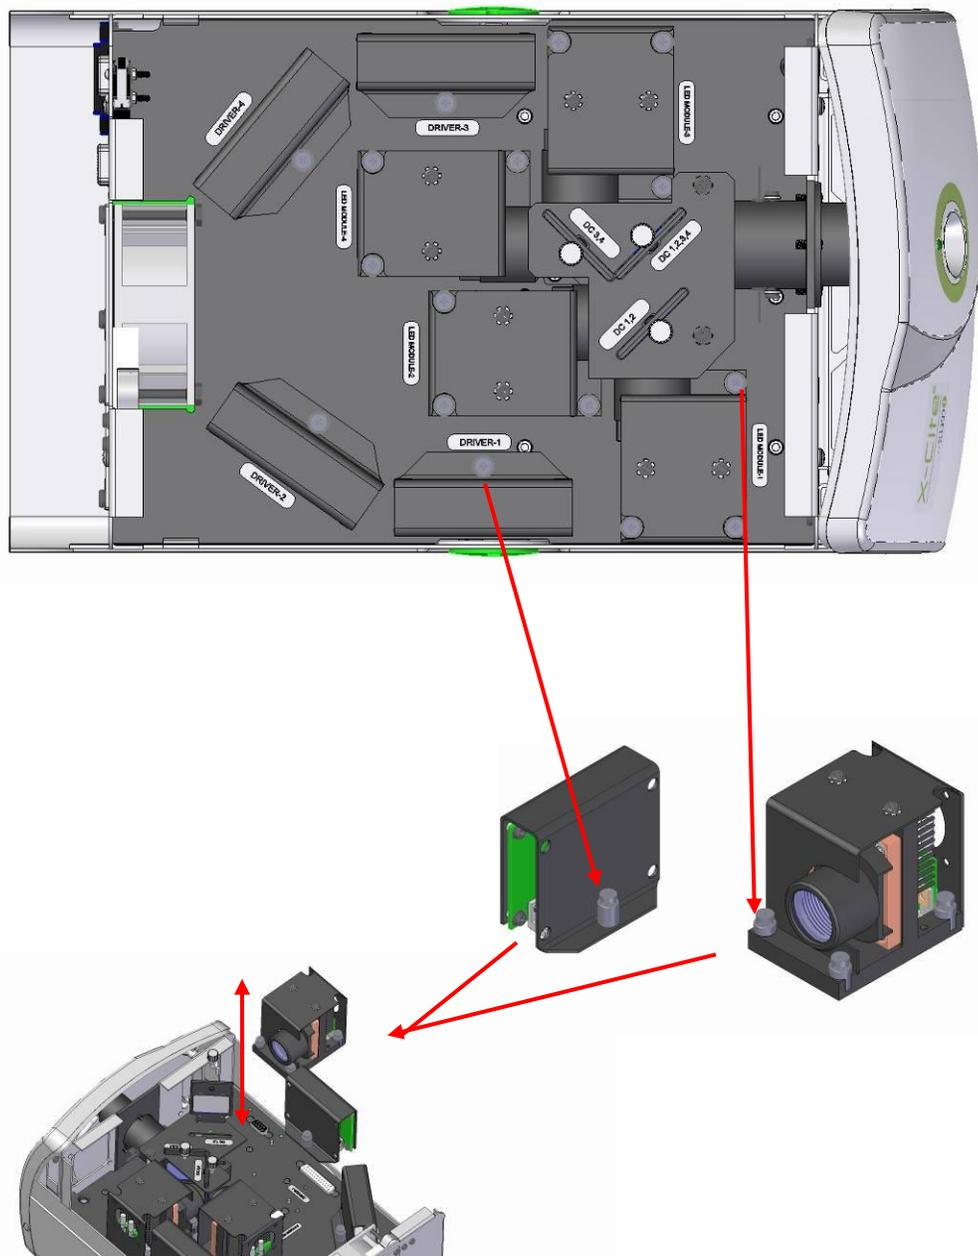

Figure 32 LED Module and Driver Replacement
10.1.3 Replacement LED Modules are shipped with their unique Drivers. Both components must be replaced at the same time. Refer to Figure 32.